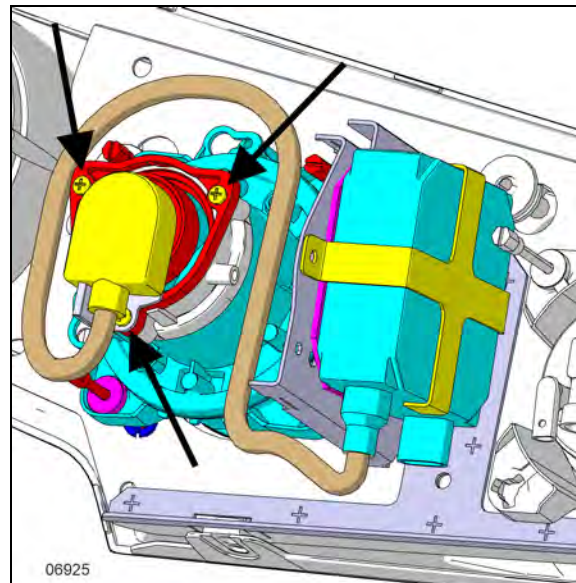

FIGURE 79: XENON HEADLAMP
3. Unscrew the three Phillips head screws (Figure 79) pull the retainer and bulb out.